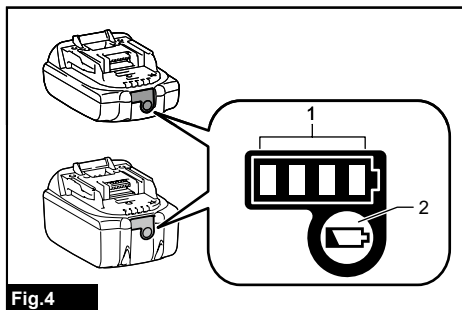

Fig.4
► Fig.4: 1. Indicator lamps 2. Check button